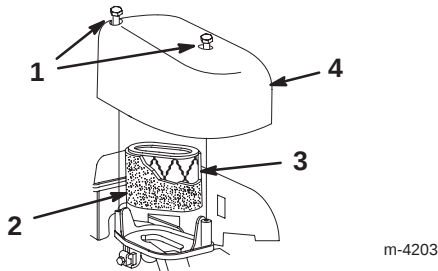

Figure 14
3. Remove the screws that secure the air filter cover (Fig. 14).
4. Remove the cover and clean it thoroughly (Fig. 14).
6. Wash the pre-cleaner with a mild detergent and water, then blot it dry (Fig. 14).
7. Remove the paper air filter and discard it (Fig. 14).
8. Insert the new paper air filter into the foam pre-cleaner (Fig. 14).
9. Install the new air filter (Fig. 14).
10. Install the cover and secure it (Fig. 14).